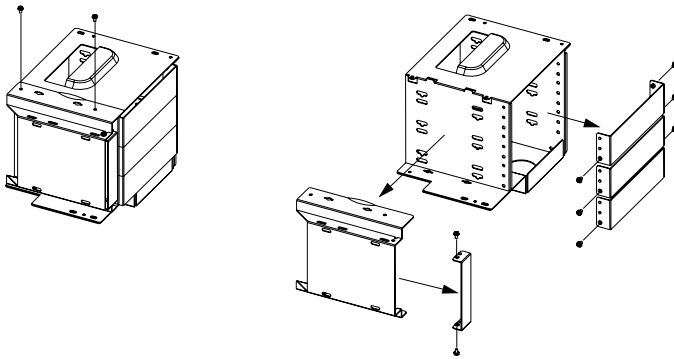

Figure 2.9: Removing the 3.5" FDD brackets and front covers
2. Loosen the two screws on top left of the housing to remove the brackets for fixing the 3.5" FDD or HDD. And then remove the screws on both sides of the front covers in case the user needs to install the front-accessible disk drives. (see *Figure 2.9*)